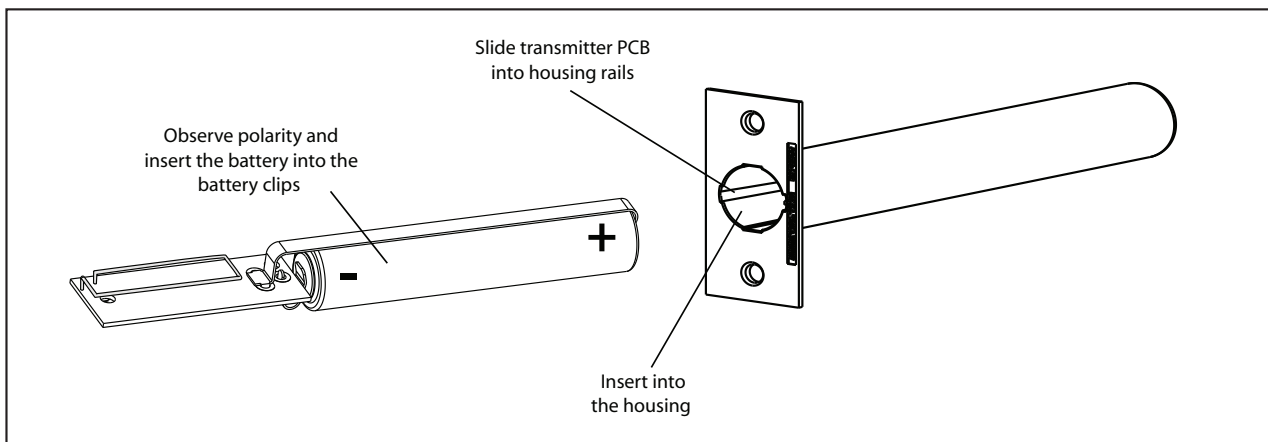

Figure 3: Replacing the Battery
4. Place the 3.0V lithium battery in the holder as shown in Figure 3 with the negative end of the battery facing the transmitter printed circuit board and hold in place.